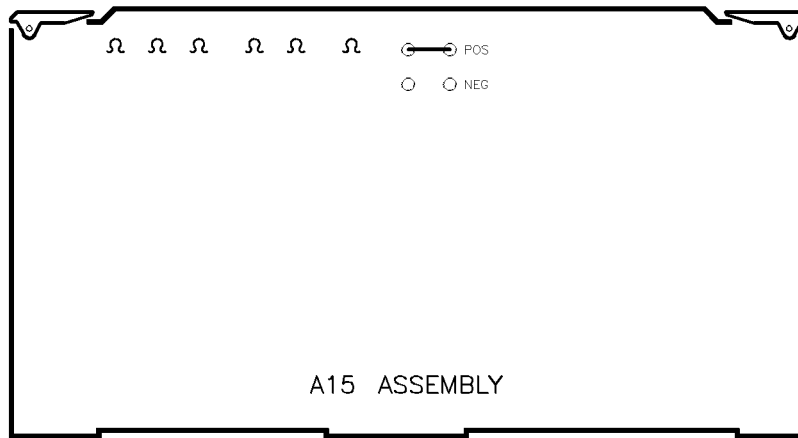

Figure 3-41. External Trigger Edge Selection Location
This procedure sets the external trigger to trigger on either the leading or the trailing edge of a TTL signal. When the jumper (shown in Figure 3-41) is in the POS position a sweep is triggered on the leading edge of the pulse (when the signal changes from 0 to 5 volts). When the jumper is in the NEG position a sweep is triggered on the trailing edge of the pulse (when the signal changes from 5 to 0 volts).
1. Turn the synthesizer power off and lift up the A15 assembly far enough to access the jumper shown in Figure 3-41. In some instruments the jumper positions will be rotated to the left 90°. In these instruments the jumper vertically connects the two left points in the POS position and the two right points in the NEG position. (POS and NEG positions are labeled on all assemblies.)